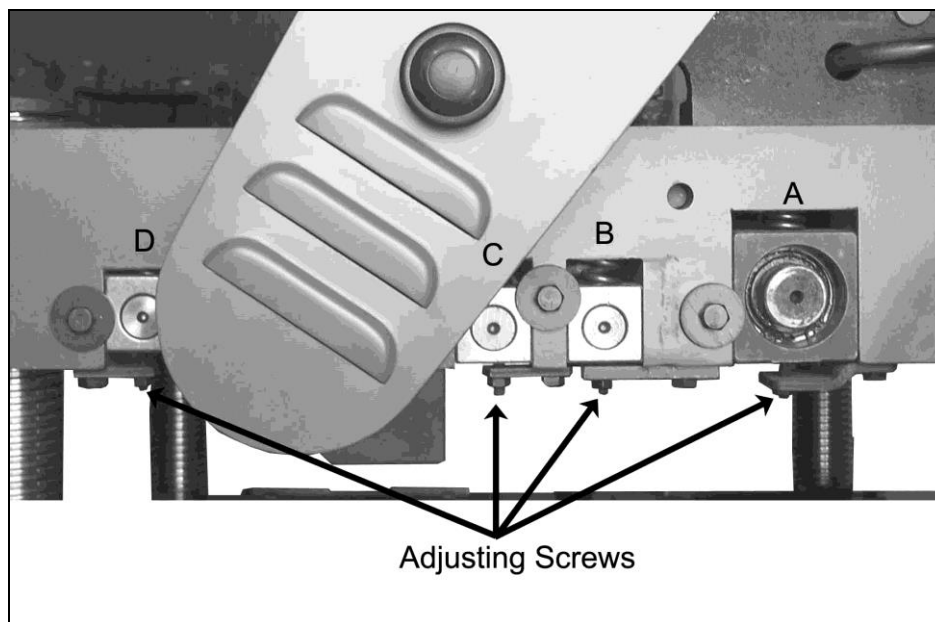

Figure 15
3. Figure 15 shows the location of the roller height adjusting screws. To make an adjustment, first loosen the jam nut then turn the allen screw to either raise or lower the roller.